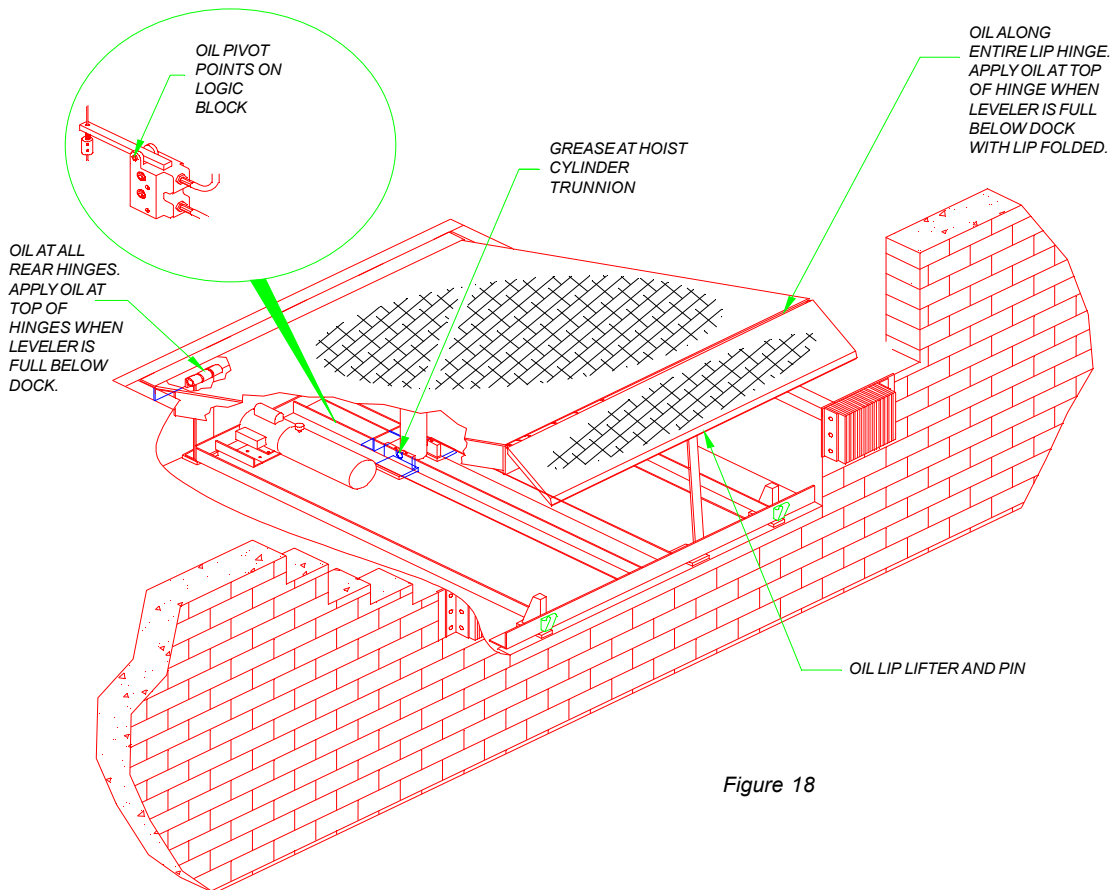

Figure 18
1. Lubricate the unit as shown in figure 18. Failure to properly lubricate the unit will cause abnormal operation of the unit.